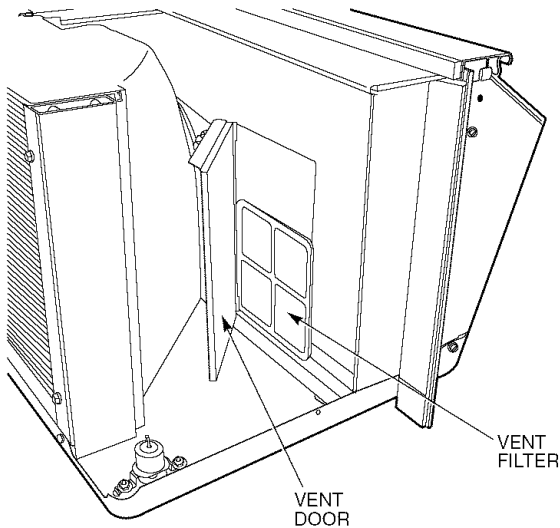

FIGURE 22 — OUTDOOR VENT FILTER LOCATION
■ **OUTDOOR VENT FILTER** (Figure 22) should be cleaned in the same manner as the air inlet filter, but only once during a cooling or heating season. Remove chassis from sleeve to access vent filter. Dirty filters restrict airflow, which can reduce major component life.